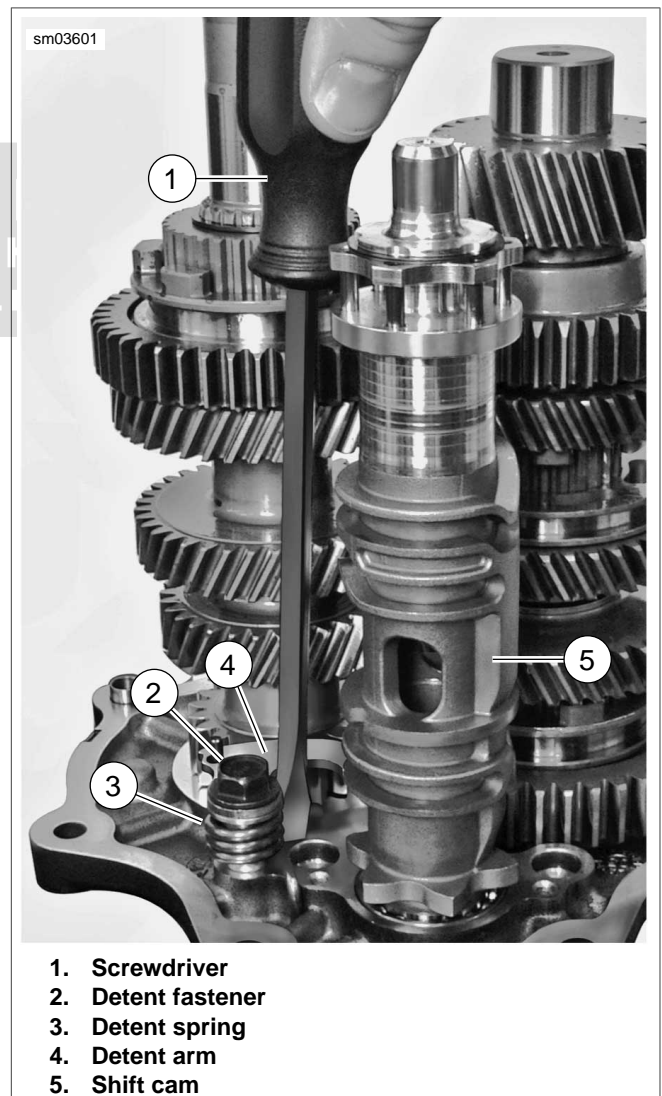
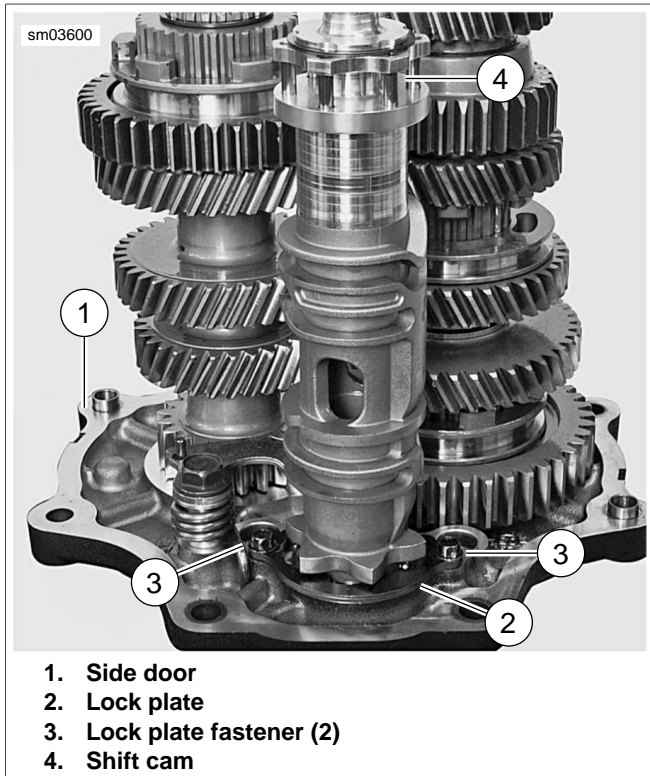

Figure 6-29. Detent Assembly
Figure 6-30. Shift Drum
6. See Figure 6-29. Using screwdriver (1), pull detent arm back to allow installation of shift cam assembly.
7. Install shift cam assembly (5).
8. See Figure 6-30. Install lock plate (2) and **new** lock plate fasteners (3). Tighten fasteners to 57-63 **in-lbs** (6.4-7.1 Nm).